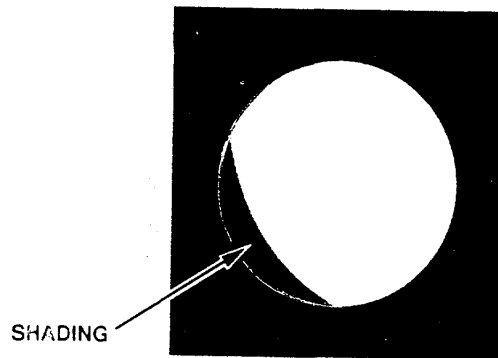

Figure 2-1 . Shading
a. Shading. This is a defect in the image area of the lens. When shading occurs you will see a faded image. Shading always begins on the edge and moves inward (fig. 2-1). If shading is present, the image intensifier must be replaced by direct support maintenance.